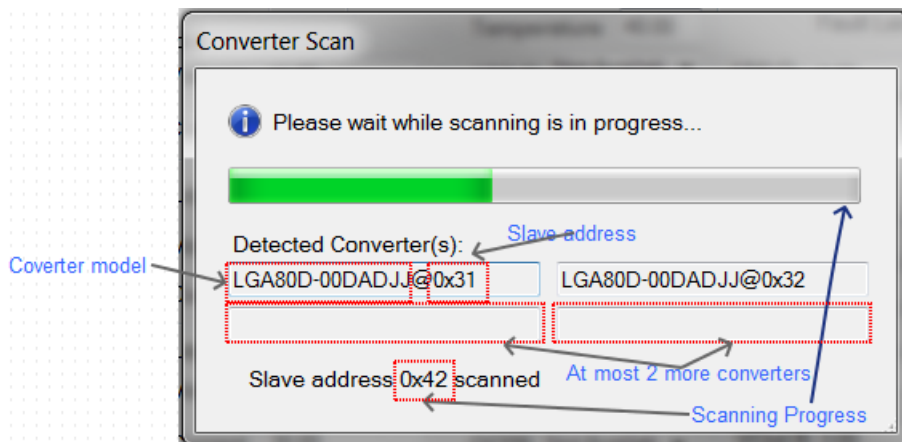

Fig. 4 – Scanning for connected DC-DC Converters
The software will scan for any connected modules. A dialog box will be displayed to show the progress of the scanning (Fig. 4).
In Fig. 4, slave addresses from 0x00 to 0x42 have been scanned. Two converters have been detected at slave addresses 0x31 and 0x32. If more converters are found after slave address 0x42, new detected converters will be populated to the remaining slots in the dialog.
- 2) Wait for the GUI to detect all connected converters (see Fig. 4)